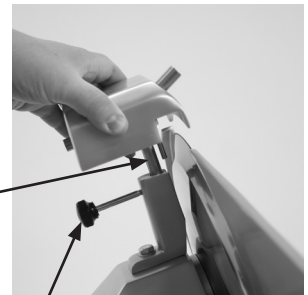

Figure 17-2
1. Loosen sharpener release knob and pull sharpener up to remove it (Fig. 17-2).
4. Put several drops of Globe oil on main shaft (Fig. 17-2), place sharpener back into position and tighten sharpener release knob.